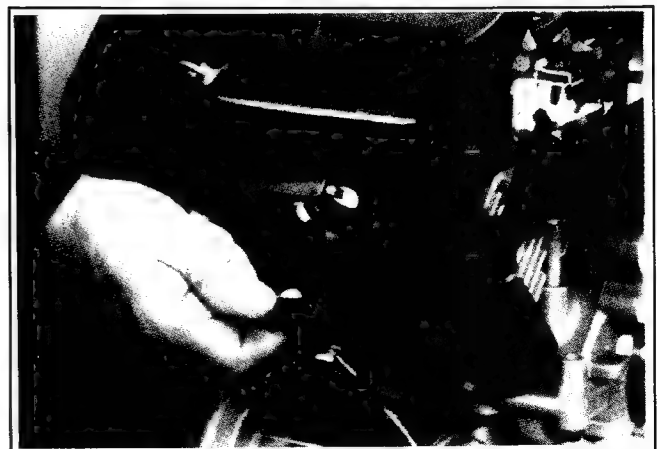

Figure 9-1. Disconnect Both Spark Plug Leads.
1. Disconnect the leads from the spark plugs. See Figure 9-1.